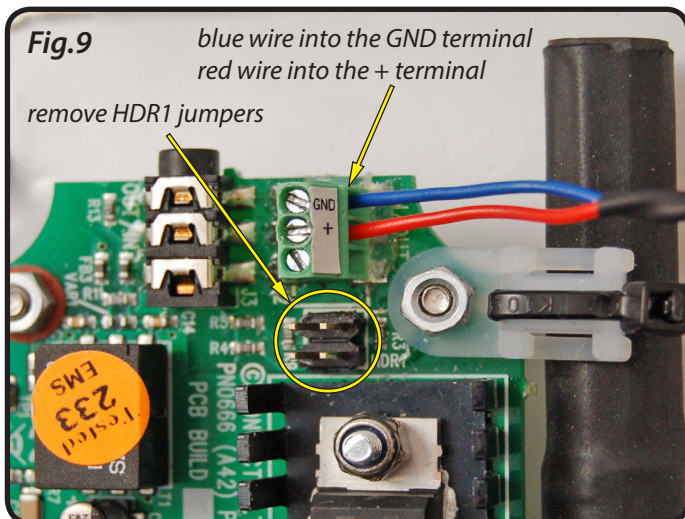

Fig.9
14. Next take the Red/Blue male connector cable and connect it into the terminal block at the top of the Induction Loop (*the Red wire connects into the +pos terminal and the Blue wire connects into the GND terminal*) and remove both HDR1 jumpers, as shown in Fig.9.